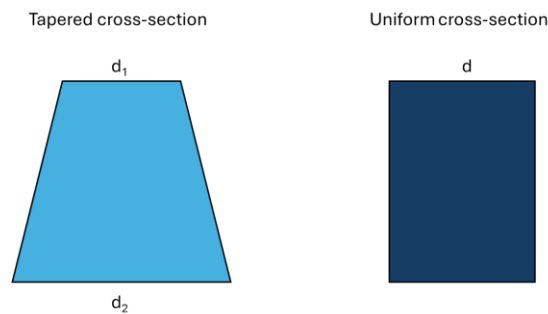

Figure 4.1: Tapered and uniform cross-section
- I. You are given two bars of the same length. One of the bars has a uniform circular cross-section with diameter d and the other has a tapered circular cross-section with end diameters d_1 and d_2 as shown in *figure 4.1*. If they are subjected to the same axial pull, determine the criteria for them to have the same elongation.